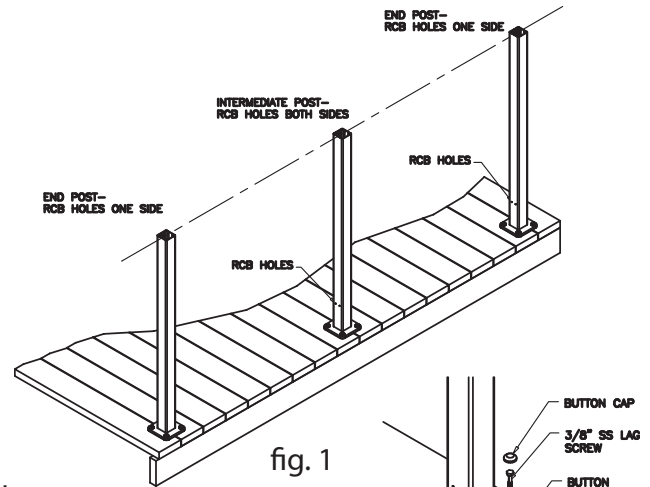

fig. 1
2) Install Posts (fig.1): Position and mount all posts utilizing the neoprene pads under the base plate. The sides of the posts with RCB holes should be facing the next post in line. Be sure that the posts in line and plumb. Post spacing should not exceed 5 feet. When choosing your mounting lag screws, be sure to allow for 3" of thread penetration into deck structure. You may need to add some wood blocking at the post locations to accommodate this thread embedment requirement